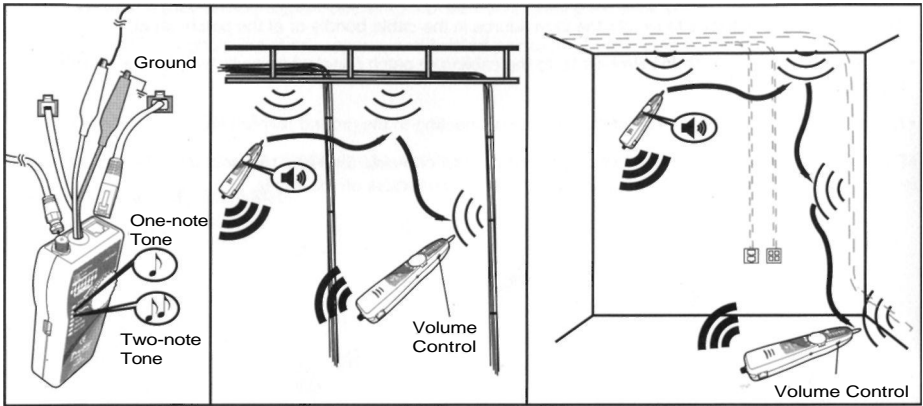

Figure 3 Locating Cables
To locate cables, do the following (Figure 3):
1. Connect the black alligator clip of the Toner to the ground, and then connect the red clip to a jack or punch-down block as shown in Figure 3.